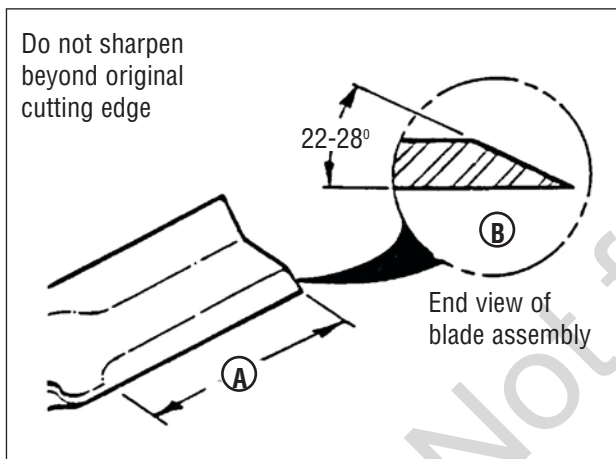

Figure 20: Sharpening the mower blade
- Sharpen the blade on a grinding wheel at an angle of 22 to 28 degrees (**B**, **Figure 20**). DO NOT sharpen the blade beyond the original cutting edge (**A**).